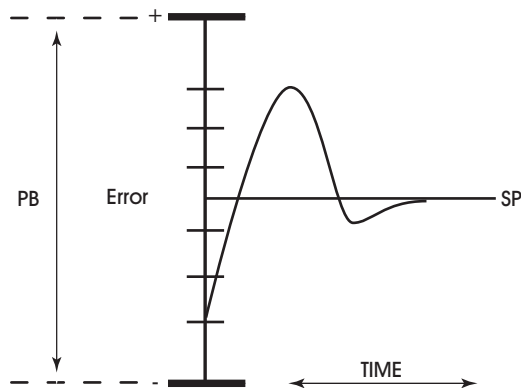

Figure 3-18: Proportional + Integral + Derivative (PID) Control
The **(RT) Derivative Rate** property specifies a percentage of change in error that is to be used in calculating **PO**. The value is specified in percent per second. The point **RT** can have any value from 0.0 to 25.5%/second. The effect of adding derivative action to the output response appears in Figure 3-18.